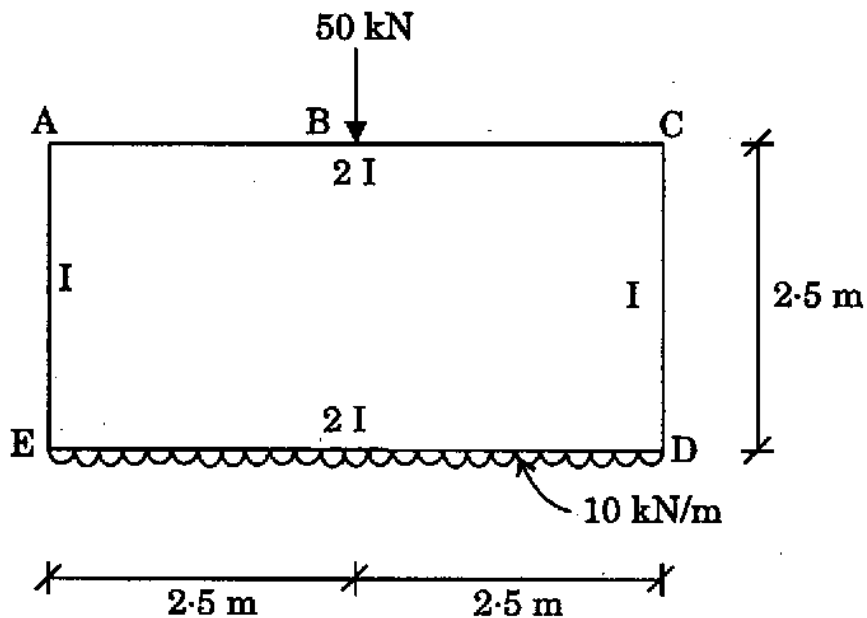

Figure 9
- (c) Analyze the plane box frame shown in Figure 9 using the moment distribution method and making use of symmetry. Also, draw bending moment diagram. 15